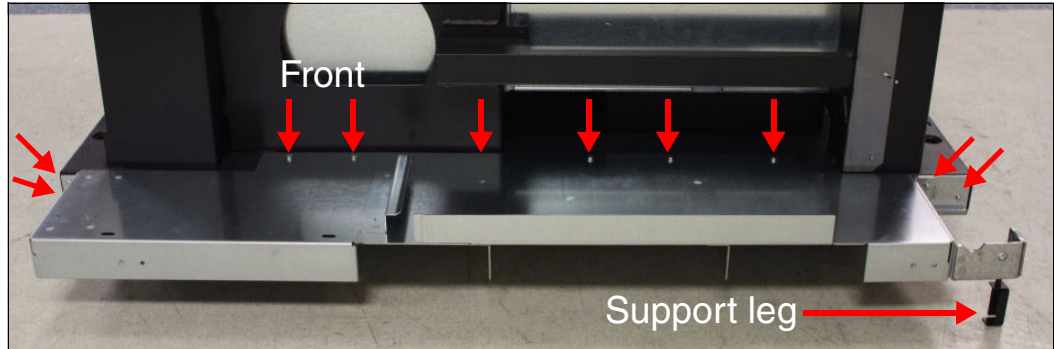

Figure 1-7 Bottom side BPE shelf with screw locations
1. Starting with the bottom shelf (part number 00E5661), align the 10 screw holes and insert the screws (part number 97P5047) required to secure the shelf to the frame. See Figure 1-7.
Attention: Install the support leg (part number 00E5691) and screw (part number 46K4287) after the rack is positioned. See Figure 1-7.